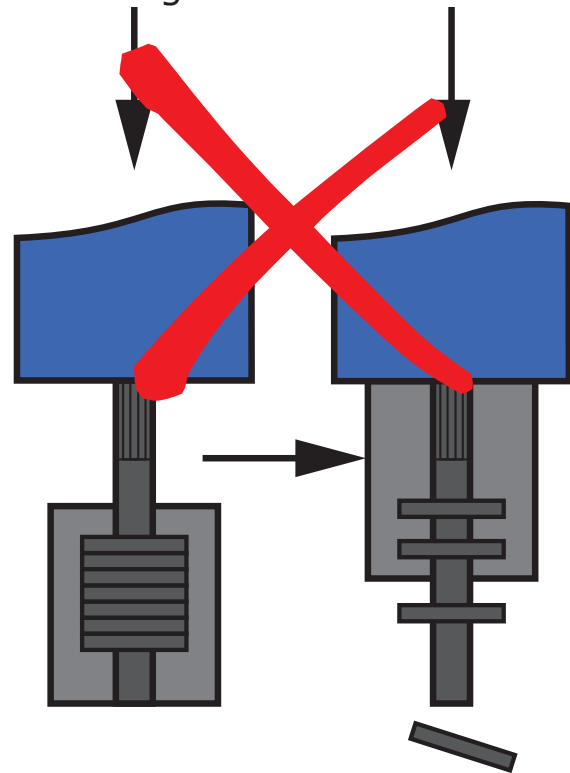

Figure 11: Improper One Step Application Installation
**WARNING:** Do not push on the shaft alone. Pushing on the shaft alone may result in damage to the torque insert. See Figure 11.